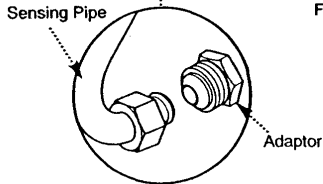

Fig. 14
- 2 Manoeuvre the pipe so that the flared end aligns with the adaptor. Engage the nut on the adaptor and tighten finger tight. Tighten the 'P' clip retaining screw and tighten the nut onto the adaptor using a suitable spanner (Fig. 14 & 15).